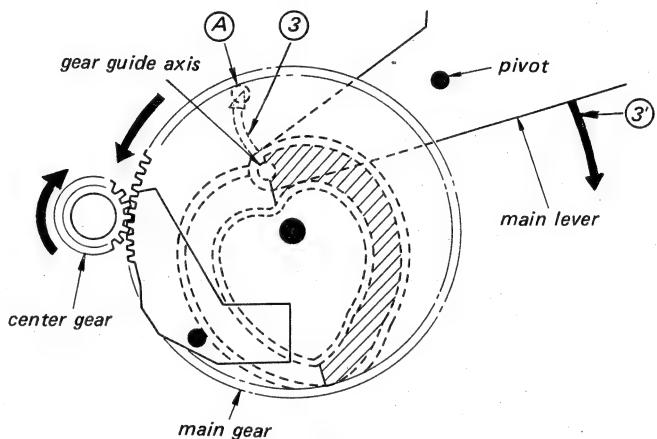
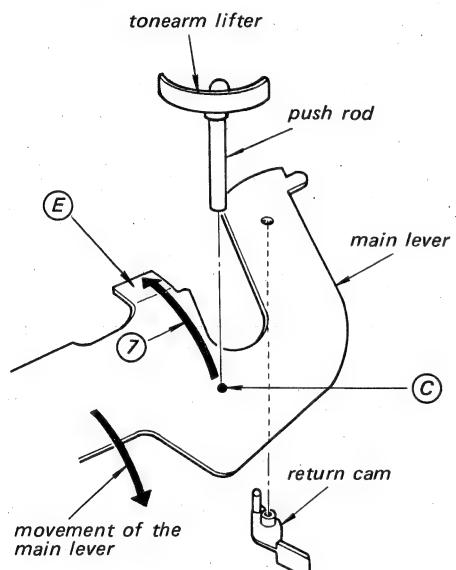
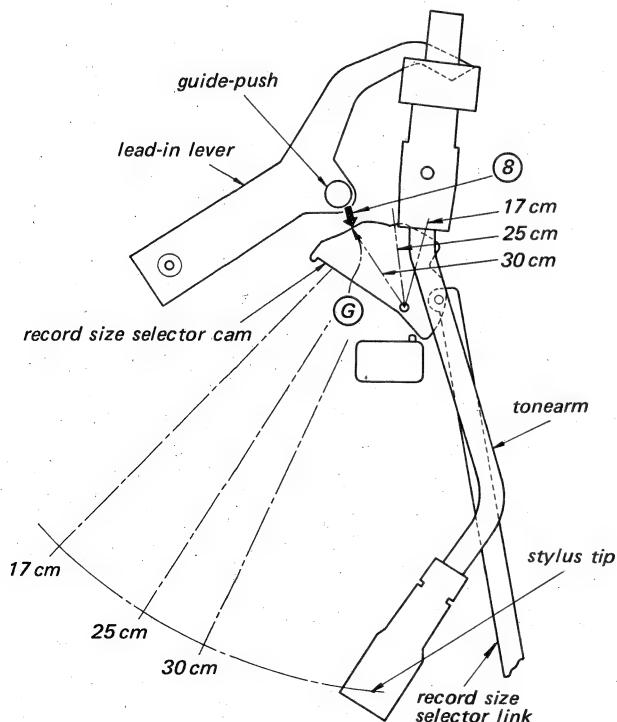
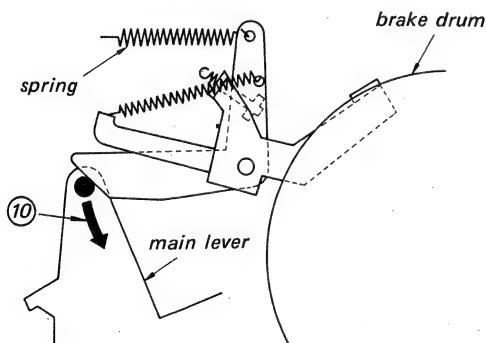

Fig. 3-3.
Fig. 3-5.
Fig. 3-6.
Fig. 3-8.
4. The gear guide axis at the tip of the main lever, is guided by the shaded section of the heart-shaped cam groove located on the main gear, moving across in a curved path ③ to position ④. Therefore, the main lever moves in the direction of arrow ③. (See Fig. 3-3.)
1. The central axis of the push rod resting against the tonearm lifter is on the position (C) in STOP mode. (See Fig. 3-5.)
2. During lead-in, the main lever moves across in the direction of arrow (3) (See Fig. 3-3), resulting in the position of the central axis of the push rod moving across as shown by arrow (7). (Fig. 3-5.)
3. The guide-push stops at the position determined by the surface (G) (Fig. 3-6) of the record size selector cam. The push rod consequently descends to position (E) (Fig. 3-5), resulting in the tonearm lowering onto the surface of the record for the commencement of play.
4. The position where the tonearm lowers (30 cm, 25 cm, 17 cm) is determined by the position of the record size selector cam shown in Fig. 3-6. The guide-push of the lead-in lever moves across in direction of arrow (8) during lead-in; and meets the size selector cam at surface (G) (for the 30 cm example shown), thus determining the drop point at the outer edge of a 30 cm record. That is, this position determines the distance moved by the lead-in lever, which consequently determines the rotational angle of the brake drum (and of the tonearm as well).
5. The return cam attached to the main lever (see Fig. 3-5) pushes against the pin of the brake drum, forcing the tonearm to move back (horizontally) towards the arm rest.
6. The return operation is completed when the tonearm arrives back at the arm rest. The main gear comes to a stop in the position shown in Fig. 3-3.
Furthermore, a spring is also employed to exert pressure upon the main lever in the direction of arrow (10) (see Fig. 3-8), thus keeping the main gear in the stop position. (See Fig. 3-3.)